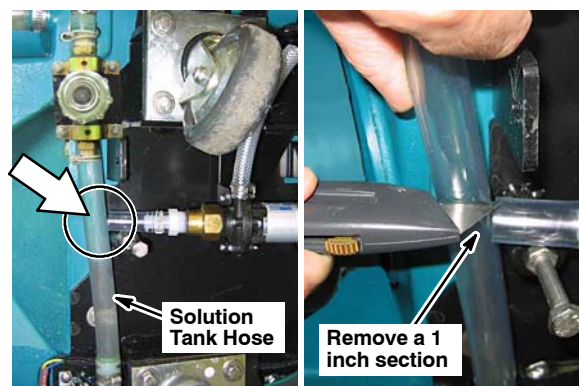

Fig. 3
7. Carefully cut away a 1 inch / 25mm section of solution tank hose where the wand pump solution hose intersects (Figure 3).